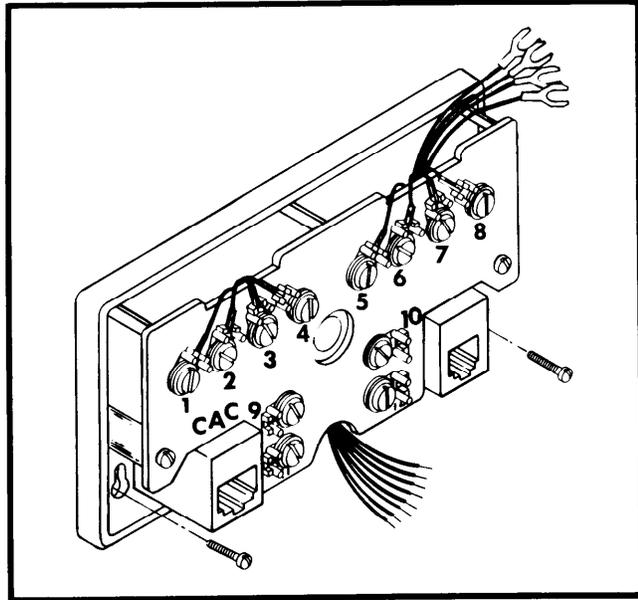

FIGURE 5
- (d) Locate the 635 base keyholes, and install the base to the wall using two #6 screws, or remove the protective liner from the adhesive backing, position the base, and firmly press in place. See Figs. 5 and 6.